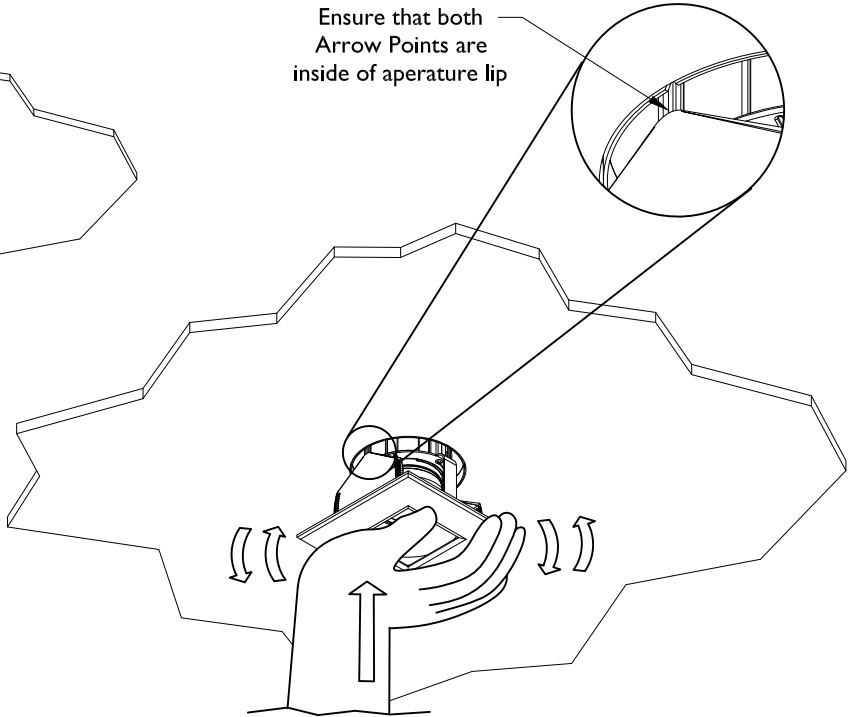

fig. 2b
4. Push Trim Section up at an angle up into the Rough-In Section while simultaneously feeding the "arrow point" of the opposing mounting spring into the opening (fig. 1e). Once the Trim Section has been installed to this point, it is acceptable to "palm" the face of the Trim Section and push directly up while simultaneously rotating the trim CW & CCW for a flush installation. (fig. 2b)
3. Once the Trim Section has been installed to this point, it is acceptable to "palm" the face of the Trim Section and push directly up while simultaneously rotating the trim CW & CCW for a flush installation (fig. 2b).